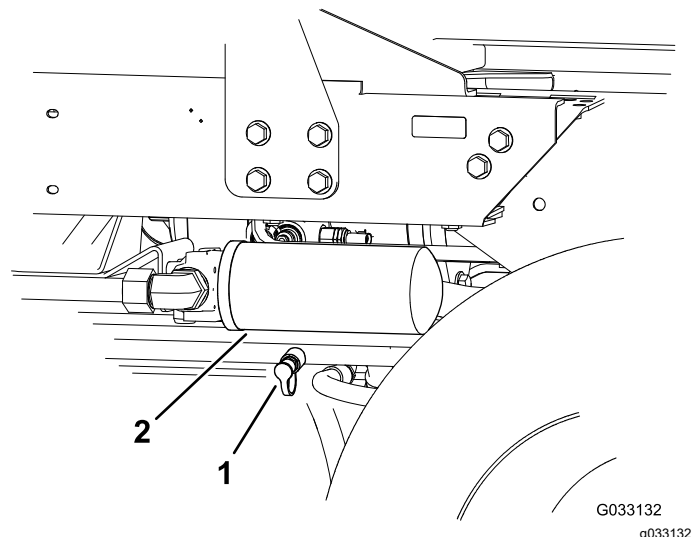

Figure 40
2. Connect a hydraulic hose between the diagnostic fitting installed in the rear traction manifold and the reverse traction pressure test port (Figure 40).